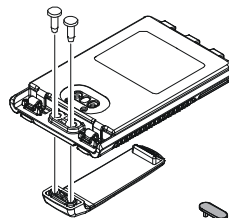

Figure 1
- Install the supplied Belt Clip to the **FNB-101LI** Battery Pack using the supplied two screws (**Figure 1**). Use *only* the screws included with the Belt Clip to mount the Belt Clip to the back of the Battery Pack!